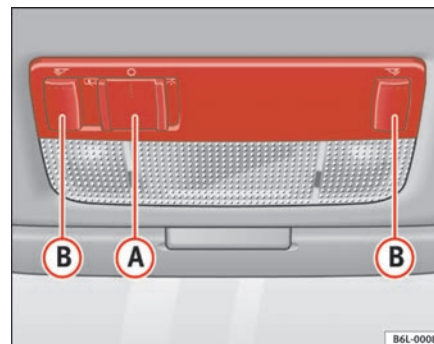

Fig. 62 Front reading
Press the corresponding button (B) ⇒ fig. 62 to switch on the reading light.